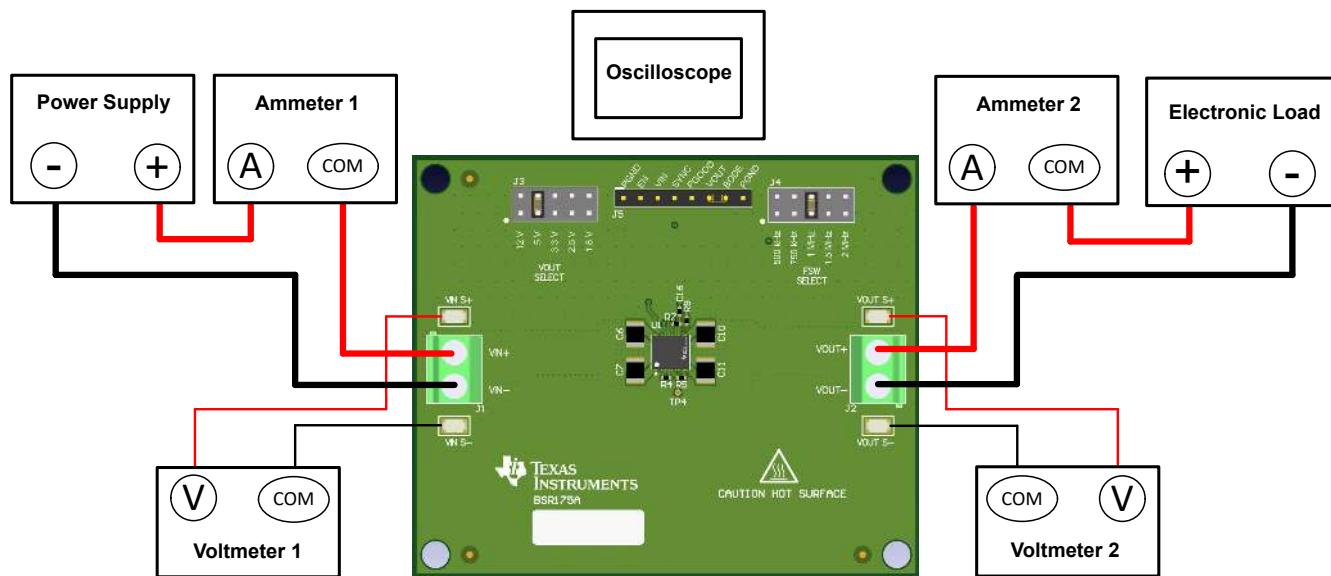

Figure 4-1. EVM Test Setup
Referencing the EVM connections described in Table 4-1, use the recommended test setup in Figure 4-1 to evaluate the TPSM63606(S). Working at an ESD-protected workstation, make sure that any wrist straps, bootstraps, or mats are connected and referencing the user to earth ground before power is applied to the EVM.
- Prior to connecting the DC input source, set the current limit of the input supply to 0.1-A maximum. Ensure the input source is initially set to 0 V and connected to the V_{IN+} and V_{IN-} connection points as shown in Figure 4-1.
- Connect an electronic load to the V_{OUT+} and V_{OUT-} connections as shown in Figure 4-1. Set the load to constant-resistance mode or constant-current mode at 0 A before applying input voltage.